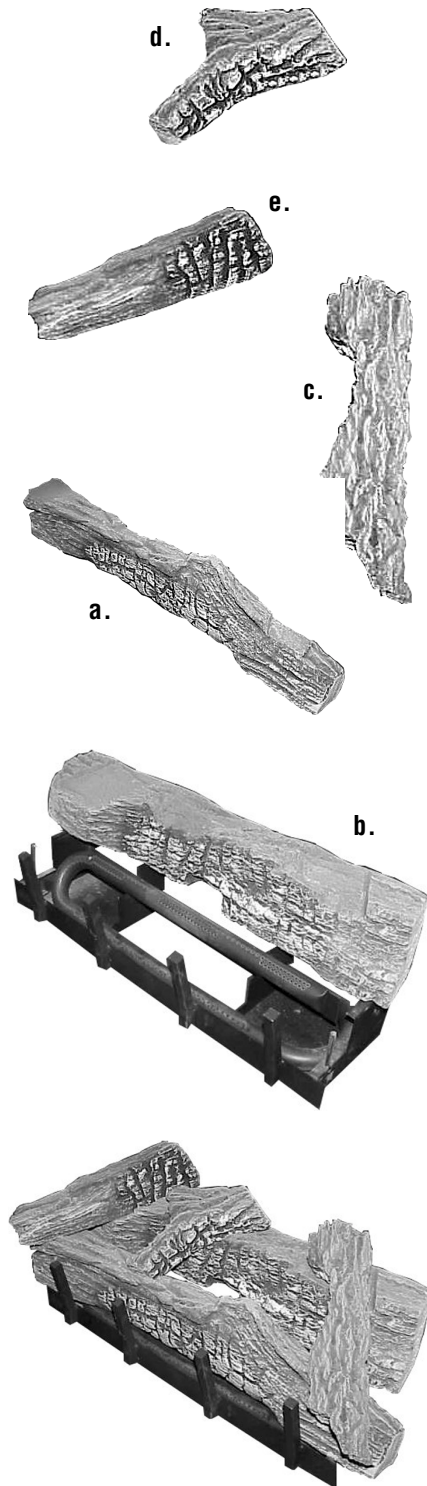

Figure 10
Step 1. Carefully position the ceramic fiber logs and twigs over the burner as shown in **Figures 10 and 11**. Place the front log over two pins located at either side of the front log platform area, charred side forward. Position the rear log over its pins in a similar fashion.